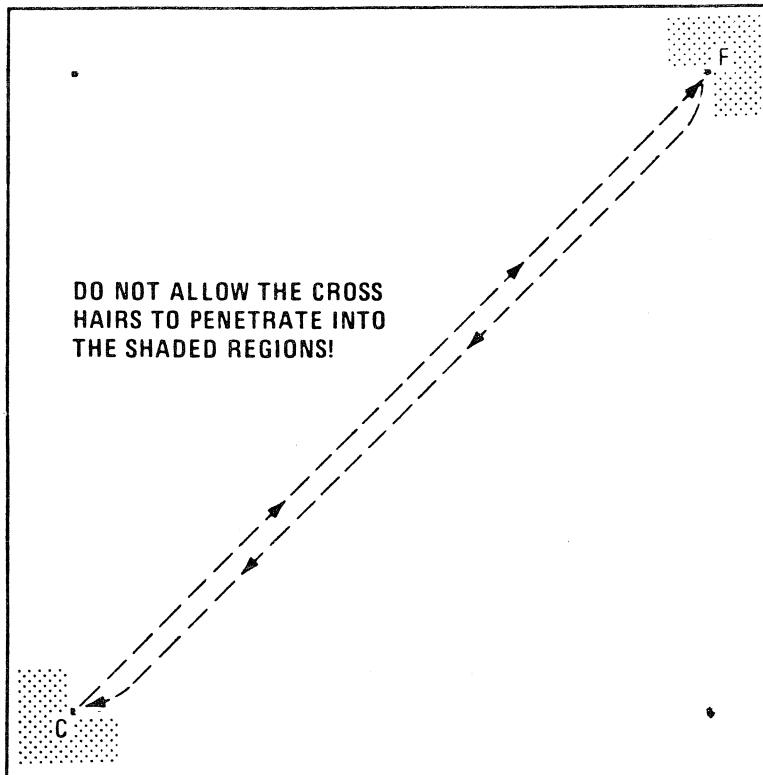

FIGURE 8
28. Referring to Figure 8, position the cross hairs over point C.
31. Referring to Figure 8, slowly slide the cursor toward point F in the manner indicated. As the cursor is moved you should see numbers in X and in Y in the form:
34. Referring to Figure 8, position the cross hairs over point C. Without moving the cursor, press **H**.
36. Referring to Figure 8, slowly slide the cursor toward point F, press **H**.
40. Referring to Figure 8, slowly slide the cursor toward point F. Continue to verify that X_4 and Y_4 increment properly. Somewhat after midway from point C toward point F, the numbers in X and in Y should change from 99.99 to .00 (X and Y probably will not change at the same time). It is not necessary to observe the actual change (although it is possible if the cursor is moved slowly enough); it is sufficient to observe that the numbers appear to increment from .00.